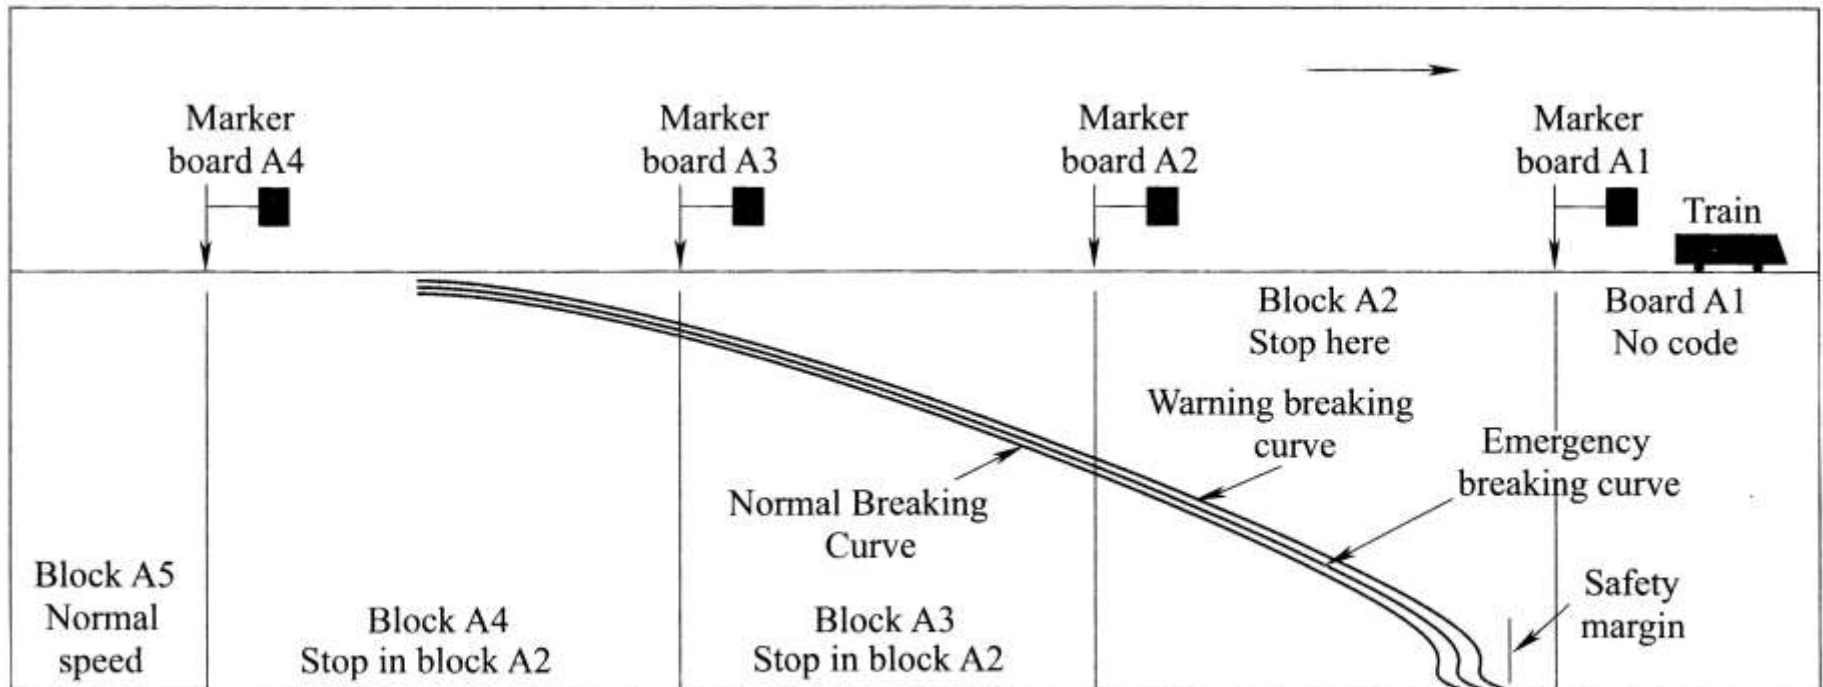

Fig. 6.5 Diagram of operation with distance-to-go
- ◆ the third is the **emergency curve** which will **force** an emergency brake if the driver does not reduce speed to within the emergency braking curve (Fig.6.5).